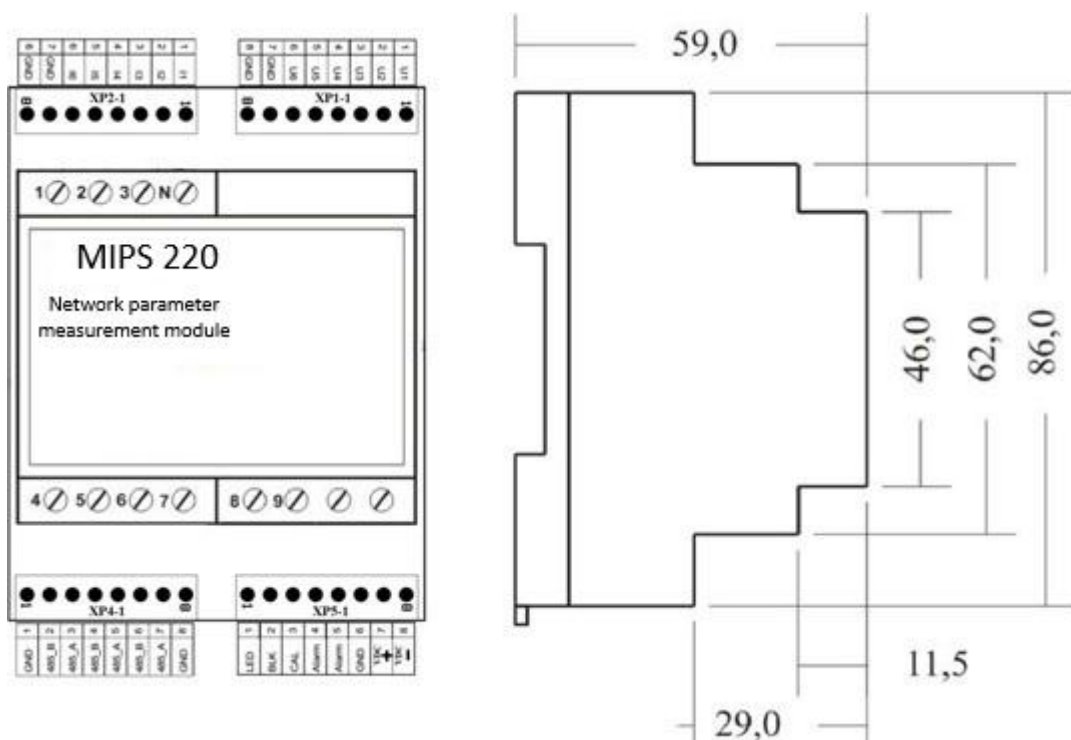

Figure 1
Device MIPS220 is being installed on DIN-rack. The overall dimensions of the MIPS device are shown in Figure 1.
2.15 The overall dimensions are shown in Figure 1.
The type and purpose of the device terminals are shown in Table 2. The designations in the table correspond to the designations in Figure 1.
5.3.5 The pinout of the connectors is shown in Figure 1. Connection via RS-485: